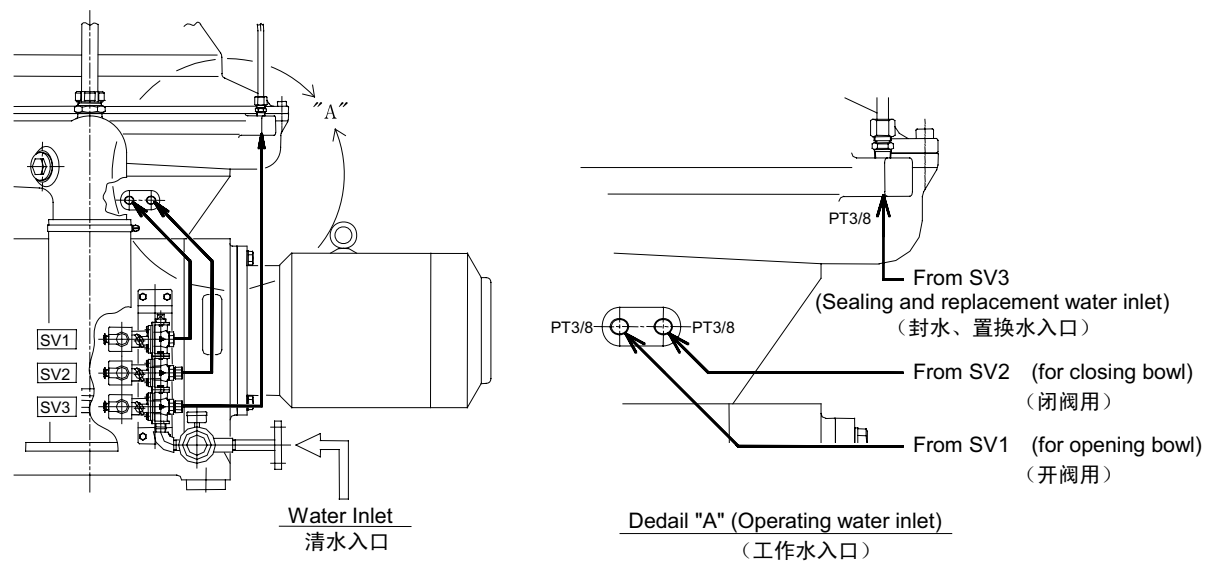

Fig 5-2
Perform piping work without any mistake, while referring to individual piping diagrams (Fig 5-2 to Fig 5-3 ) and 5.4 Flow diagram.
以下对它们的水系统加以说明，请对照各自的配管图（Fig 5-2～Fig 5-3）及 5.4 流程图等进行正确施工。
1. In the case of the automatic specifications, standard connection form of the operating water piping is as Fig 5-2.
1. 自动化规格的工作水配管采用如 Fig 5-2 所示的连接方式。